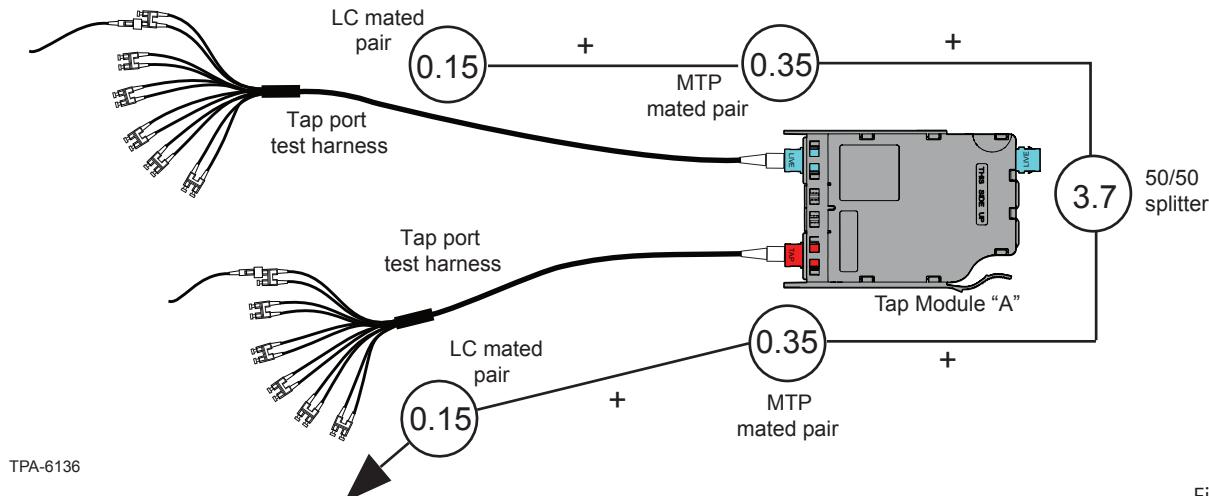

Figure 12
9.1 This section describes how to calculate the loss budgets of the TAP portions of a system using a EDGE MTP Tap Module and how to test that portion of the system. Note that you will need to calculate two loss budgets for the Tap portion system (Figures 12 and 13).
9.2. To calculate the system loss for the TAP system, add the loss values of the components that are in the system as illustrated in Figures 12 and 13.